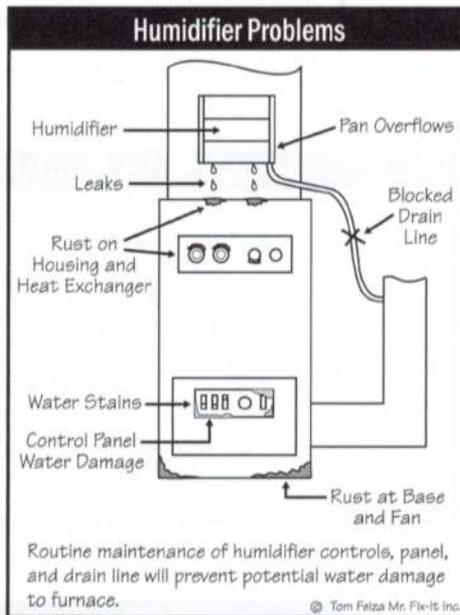

Figure 3
- If your furnace has a built-in humidifier, turn it off. Also, turn off the water supply to the humidifier. Try leaving this humidifier off year-round unless your home becomes extremely dry. See Figure 3.